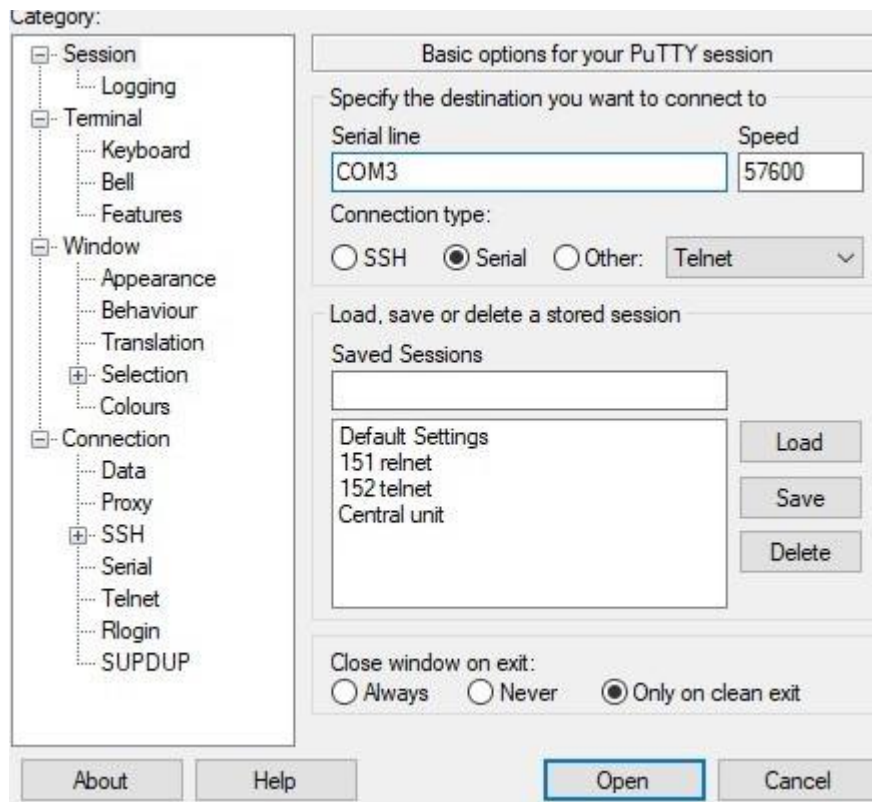

Figure 52: Opening of COM Port window
- (a) Serial Line is the COM port of PC/Laptop (e.g., COM1, COM2, COM3) as shown in Figure 52.